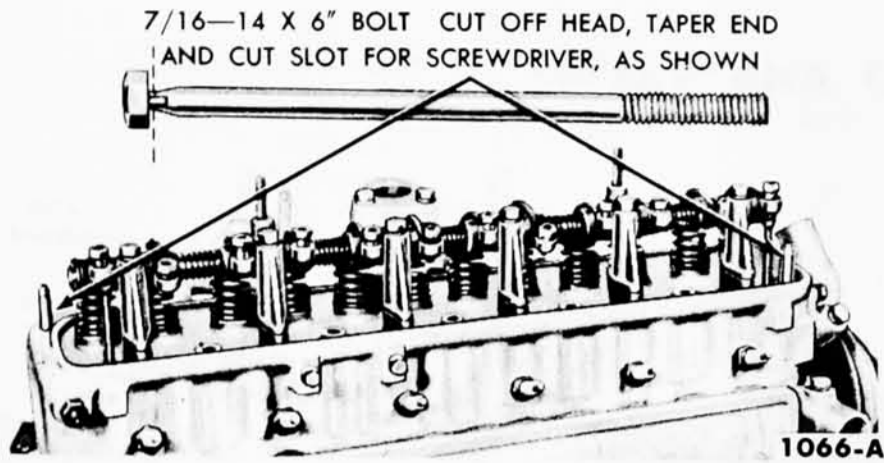

Fig. 15—Cylinder Head Guide Studs
9. Remove all cylinder head bolts. Install the cylinder head guide studs (Fig. 15). Lift the cylinder head assembly off the engine. *Do not pry between the head and block as the gasket surfaces may become damaged.*